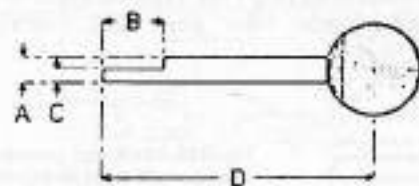
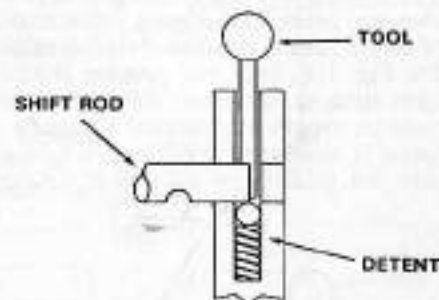
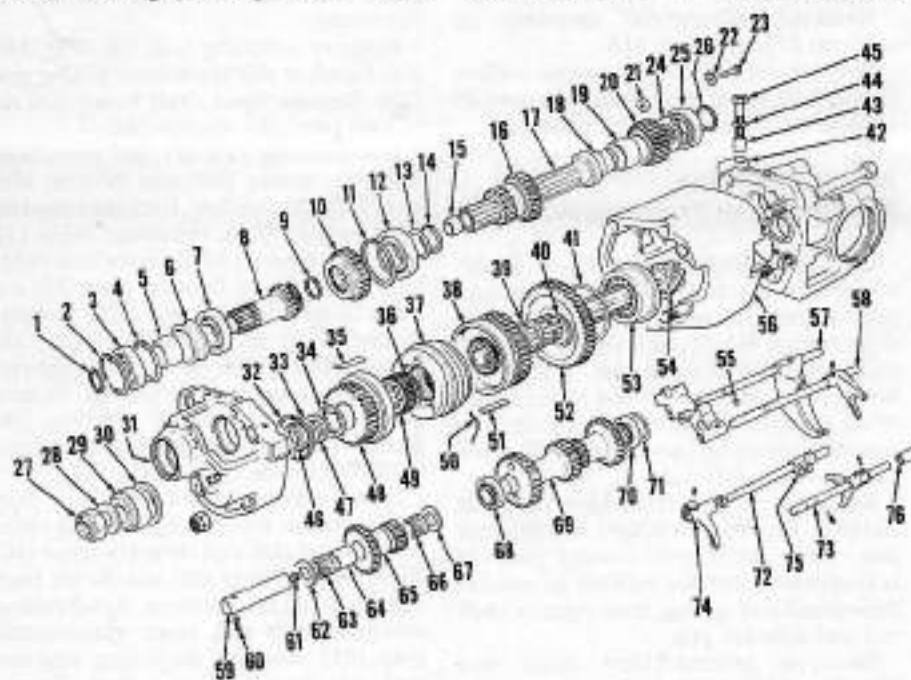

Fig. 158—As an aid for installing detent balls and springs fabricate a tool to specifications shown.
Fig. 159—Position tool as shown, push detent ball and spring down while moving shift rod in. Remove tool and push shift rod completely in rod bore.
Fig. 160—Exploded view of 12 speed synchromesh transmission used on 1490 models.
**272. SHIFT RODS AND DETENT ASSEMBLY.** To facilitate installation of detent balls and springs fabricate an installation tool as shown in Fig. 158.
Install detent ball and spring for first/reverse shift rod (rail) using tool as shown in Fig. 159. Push detent ball down with tool while moving shift rod into rod hole as shown.
**273. DISASSEMBLY.** Place transmission in a suitable transmission support stand and remove roll pins from slow/normal shift fork (74—Fig. 160) and selector jaw (75). Push slow/normal shift rod (72) rearward just far enough to remove detent ball and spring. Remove shift rod, selector jaw and shift fork. Remove high/low shift fork, sleeve, detent ball and spring and shift rod (73). Remove roll pins from shift fork and selector jaw on second/third shift rod (57) and move rod toward rear of transmission just enough to remove detent ball and spring. Remove shift interlock plug (55).
Noting pinion nut (27—Fig. 160) has left-hand threads, remove nut (27), washer (28) and bearing cone (29) from pinion shaft (54). Remove stud bolt nuts and separate and support front end plate (31) approximately 40 mm (1.5 inches) from transmission center housing (56). Push first/reverse shift rod (58) rearward just enough to remove detent ball and spring. Lift front end plate (31) off transmission center housing (56).
Remove roll pin (60—Fig. 160) and remove idler shaft (59). Remove snap ring (1) from input gear (8) and snap ring (2) from front end plate (31). Carefully remove input gear assembly out of front end plate. Do not use force as damage to bearings may result. Remove idler gear (65) and both thrust washers (62 and 67). Remove bearings (63 and 66) and spacer (64) from inside idler gear (65). Remove input gear bearing cup and outer spacer (6) from front end plate. Remove remaining bearing cups, spacer, bearings and snap rings from front end plate.
**276. INPUT SHAFT ASSEMBLY.** Install bushing (15-Fig. 160) in input
**277. PINION SHAFT ASSEMBLY.** With first/reverse shift fork and selector jaw assembled on shift rod, place first/reverse sliding gear (40-Fig. 160) on fork with gear side towards selector jaw and install gear on pinion shaft and
**278. INTERMEDIATE SHAFT ASSEMBLY.** Install bearings (68 and 70-Fig. 160) on intermediate shaft (69). Install a 0.254 mm (0.010 inch) thick shim (71) in rear end plate (42) in intermediate shaft bearing bore and install bearing cup. Install bearing cup in front end plate (31) and place intermediate shaft in position on rear end plate (42). Install center housing (56), stud bolts and front end plate (31). Tighten stud bolt nuts to 95 N·m (70 ft.-lbs.) torque. Mount dial indicator so probe contacts rear gear of intermediate shaft. Measure and note end play of intermediate shaft. Remove front end plate, stud bolts, center housing, intermediate shaft and bearing cup from rear end plate. Add or subtract to thickness of the 0.254 mm (0.010 inch) thick shim (71) to obtain correct intermediate shaft end play of 0.051-0.102 mm (0.002-0.004 inch). Reinstall bearing cup and intermediate shaft.
**279. FRONT END PLATE ASSEMBLY.** Install bearing (7-Fig. 160) on input gear (8) with the side on which bearing numbers are stamped towards splined end of input gear. Install inner spacer (5) on input gear (8).
Place slow/normal sliding gear (10—Fig. 160) in position in front end plate cavity with selector fork groove toward input gear. Install front end plate on center housing until first/reverse shift rod just enters rod hole in front end plate and support in this position. Use tool shown in Fig. 158 and install detent ball and spring (Fig. 159) while joining front end plate and center housing. Make certain input shaft (17) has entered slow/normal sliding gear (10) and tighten front end plate retaining locknuts to 95 N·m (70 ft.-lbs.) torque.
**280. PINION SHAFT BEARING PRELOAD.** Install all shims (33—Fig. 160) removed during disassembly **PLUS** an additional 0.254 mm (0.010 inch) thick shim. Install shoulder washer (46) with flat side against shims (33). Install bearing cone (29), washer (28) and nut (27). Note nut has left-hand threads and tighten to 271 N·m (200 ft.-lbs.) torque. Mark differential bearing caps and remove differential assembly. Mount dial indicator so probe contacts end of pinion shaft, then measure and note amount of pinion shaft end play.